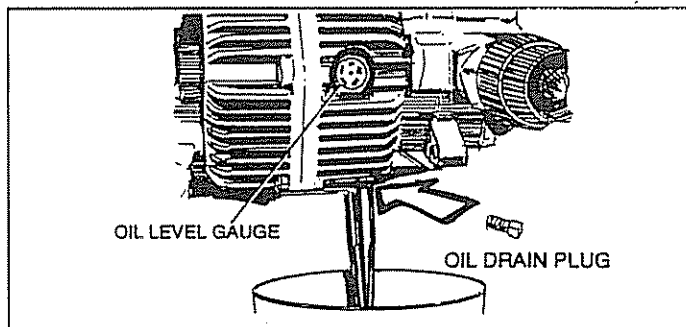

FIG. 22
- Place a proper container beneath the pump (Fig. 22).